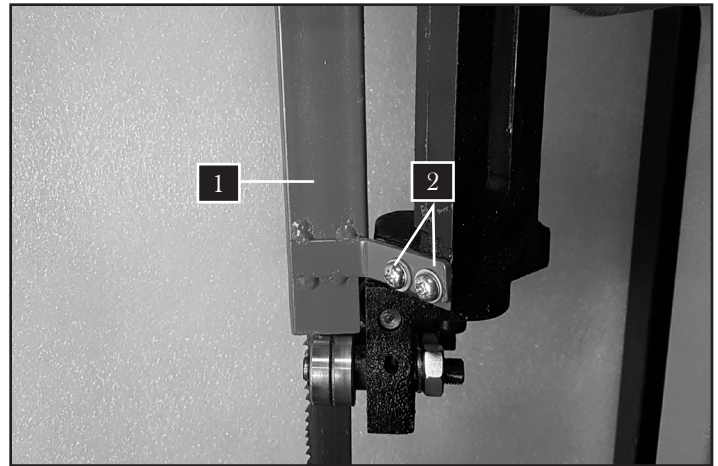
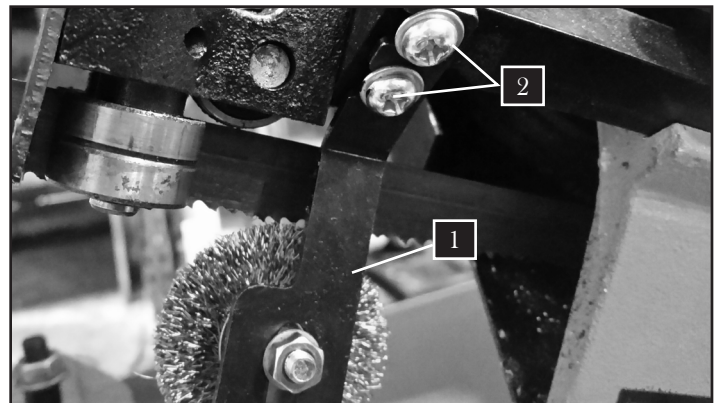

Fig. 25
Fig. 26
2. Remove the red blade guard assembly (Fig. 25 - 1) by removing mounting screws and washers (Fig. 25 - 2). Be sure to reinstall the blade guard later.
3. Remove the wire wheel assembly (Fig. 26 - 1) by loosening two screws and washers (Fig. 26 - 2).
12. Reattach the red blade guard (Fig. 25 - 1) and wire brush assembly (Fig. 26 - 1).